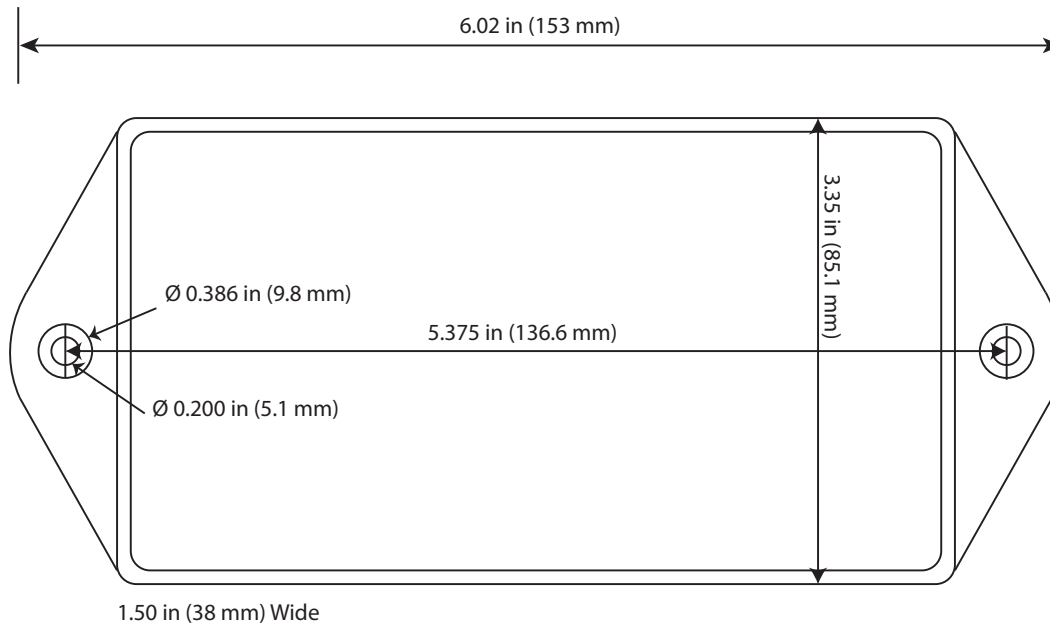

Figure 2: Power Meter Dimensions
2. Mount the Power Meter into the electrical enclosure using the two $\frac{1}{8}$ inch mounting holes on the left and right sides of the Power Meter (see Figure 2).